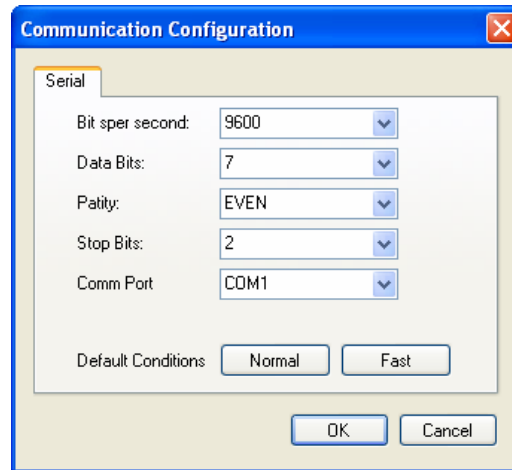

Figure 2 Communications configuration dialogue
The open button brings up a dialogue to select the correct port settings. As shown in Figure 2 you can set the standard parameters manually or select the normal or high speed default settings. When you press the OK button these parameters are stored in the CCOMMS class, the selected communication channel is then opened. Once opened the program attempts to find the command line, if it is successful it transmits a MPE(1) to set channel mode. You will see an echo of this in the command line as in Figure 3.